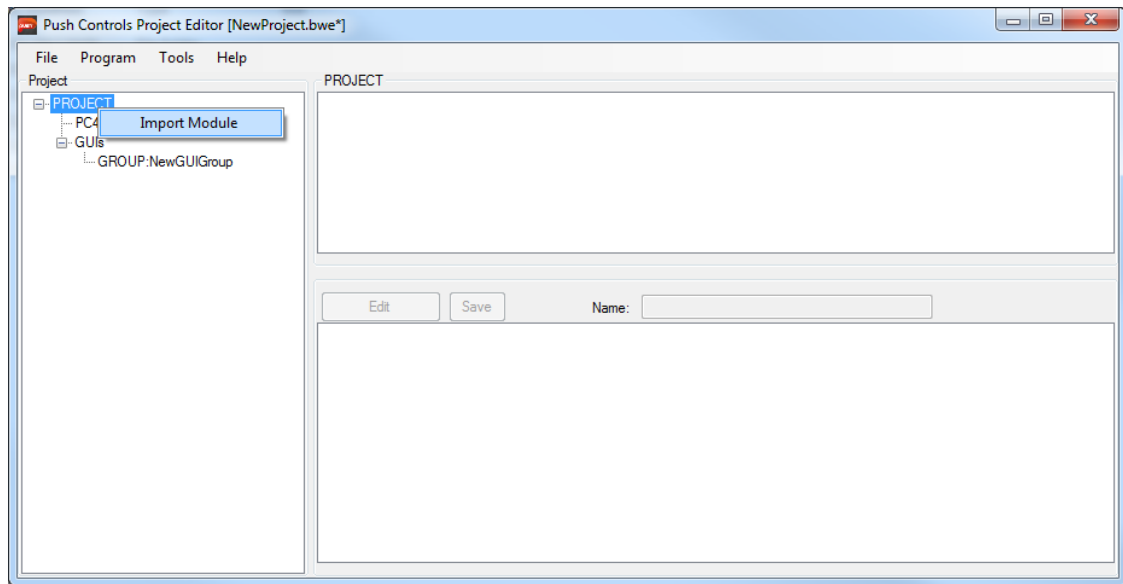

Figure 2 – Right click on PROJECT, inside the project tree, to import a module.
- Right click on 'PROJECT' at the top of the tree and select 'Import Module'. *Refer to Figure 2*